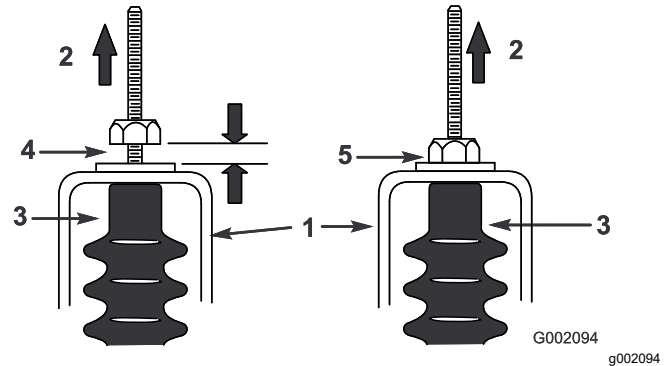

Figure 46
5. Pull up on each shift cable and ensure that there is a 0.76 to 1.52 mm (0.03 to 0.06 inch) between the nut/washer and the neutral bracket (Figure 46).